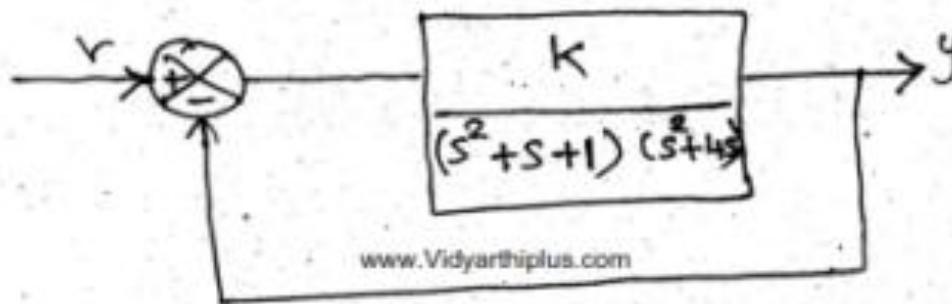

Fig. 2
14. (a) Consider the closed – loop system shown in Fig. 2, determine the range of K for which the system is stable. (16)